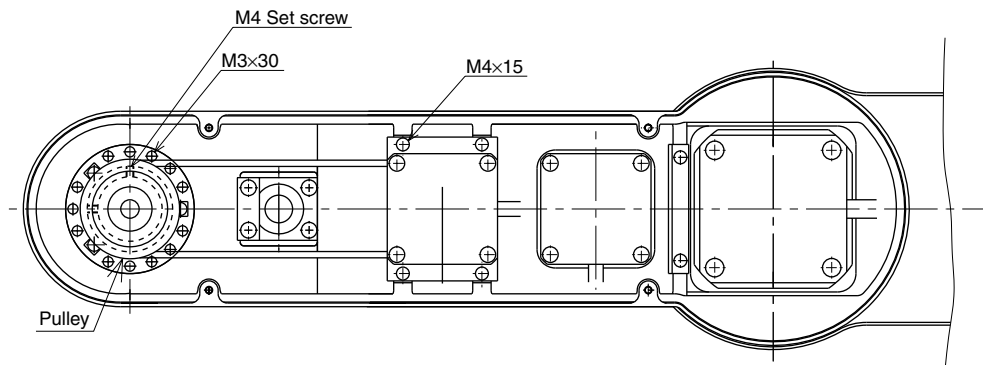
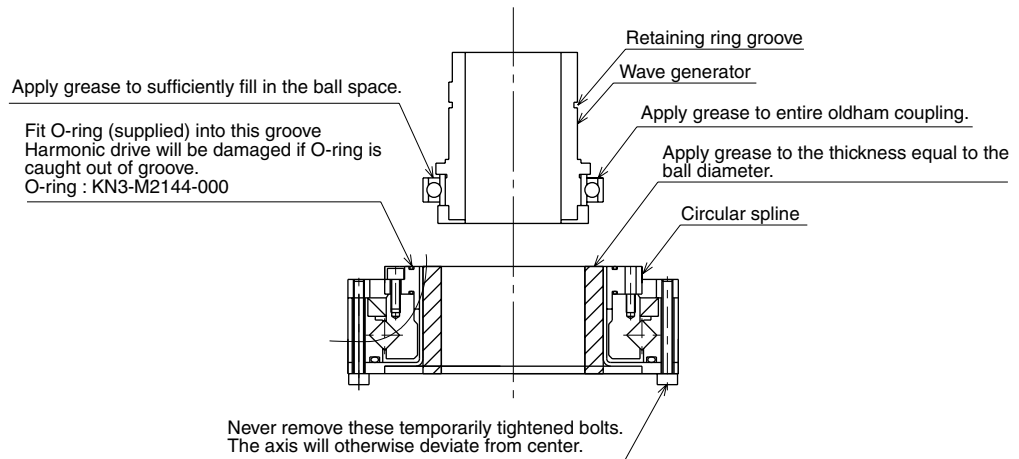

Fig. 5-50
Fig. 5-51
- 9) Remove the bolts (M4×15L, 4 pieces) securing the R-axis motor plate at the top of the Y-axis arm. (See Fig. 5-50.)
- 10) Loosen the pulley set screw (M4, 2 pieces) and remove the pulley from the wave generator. (See Fig. 5-50.)
- 11) Remove the harmonic drive installation bolts (M3×30L, 13 pieces) and pull out the harmonic drive from the bottom of the Y-axis arm. (See Fig. 5-50.)
- 13) Apply harmonic grease to the new wave generator. See Fig. 5-51 for applying grease properly.
See Fig. 5-51 for applying grease properly.
- 16) Fit an O-ring (supplied with the harmonic drive) coated with harmonic grease into the O-ring groove on the new harmonic drive. (See Fig. 5-51.) Apply small amounts of “Screw Lock” to the bolts (M3×30L, 13 pieces) and tighten them to secure the harmonic drive to the Y-axis arm from the top of the Y-axis arm. (See Fig. 5-50.)
- 17) Apply small amounts of “Screw Lock” to the M4 set screws (2 pieces) and tighten them to secure the pulley to the wave generator. (See Fig. 5-50.)
- 18) Fit the timing belt onto the wave generator pulley and motor pulley, and then secure the motor plate. (See Fig. 5-50.)